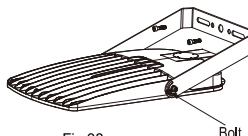

Fig 38
Step 2: After adjusting the bracket Angle, use the screw to tighten the Angle adjustment, as shown in Fig.38: